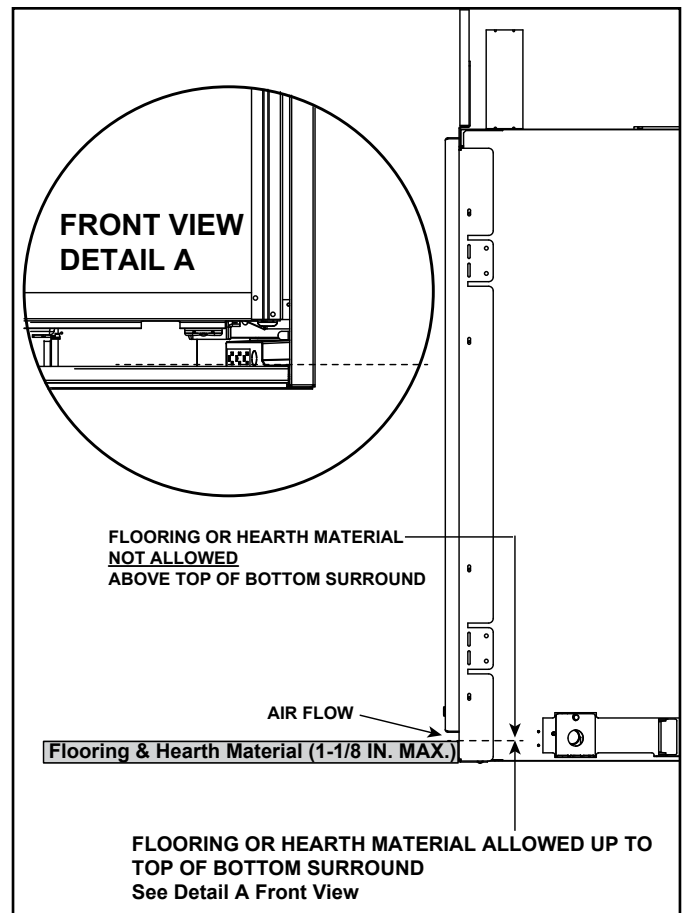

Figure 3.18 Flooring & Hearth Material Allowed
- Flooring and hearth material is allowed up to, but not above, the top of the bottom surround in order to allow for proper air flow from appliance. See Figure 3.18.